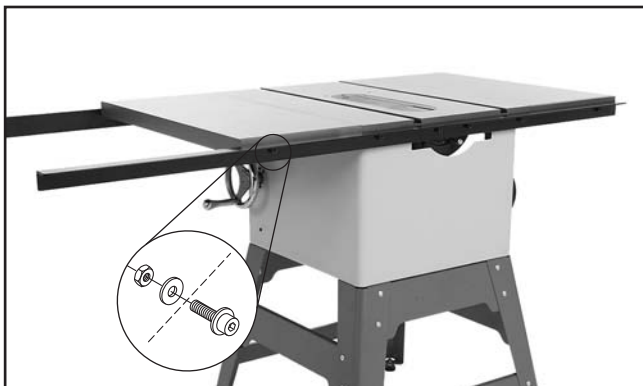

Figure 18. Rear rail installed on saw.
14. Install the rear rail with six M8-1.25 x 25 flange cap screws, 8mm flat washers, and M8-1.25 hex nuts (**Figure 18**).